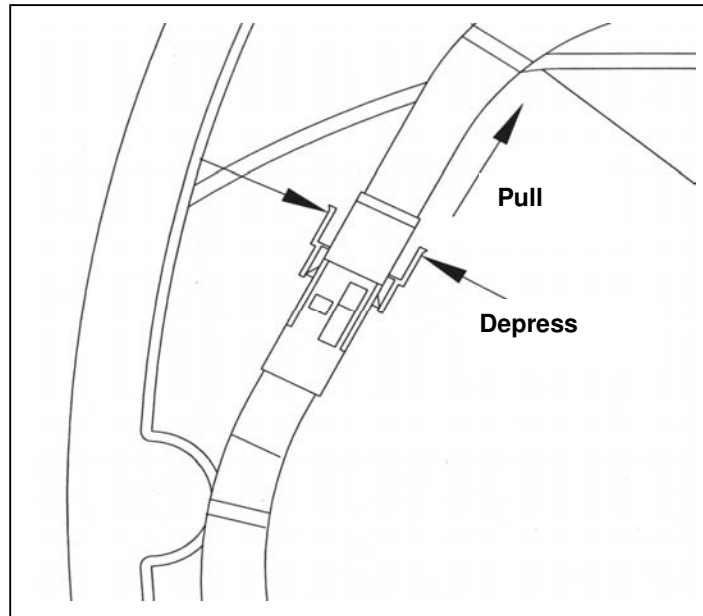

Fig 6 Motor plug and housing
To remove fan assembly: (see fig 6)
Step 2. Reconnect the motor plug. Ensure plug is locked into position. (see fig 6)